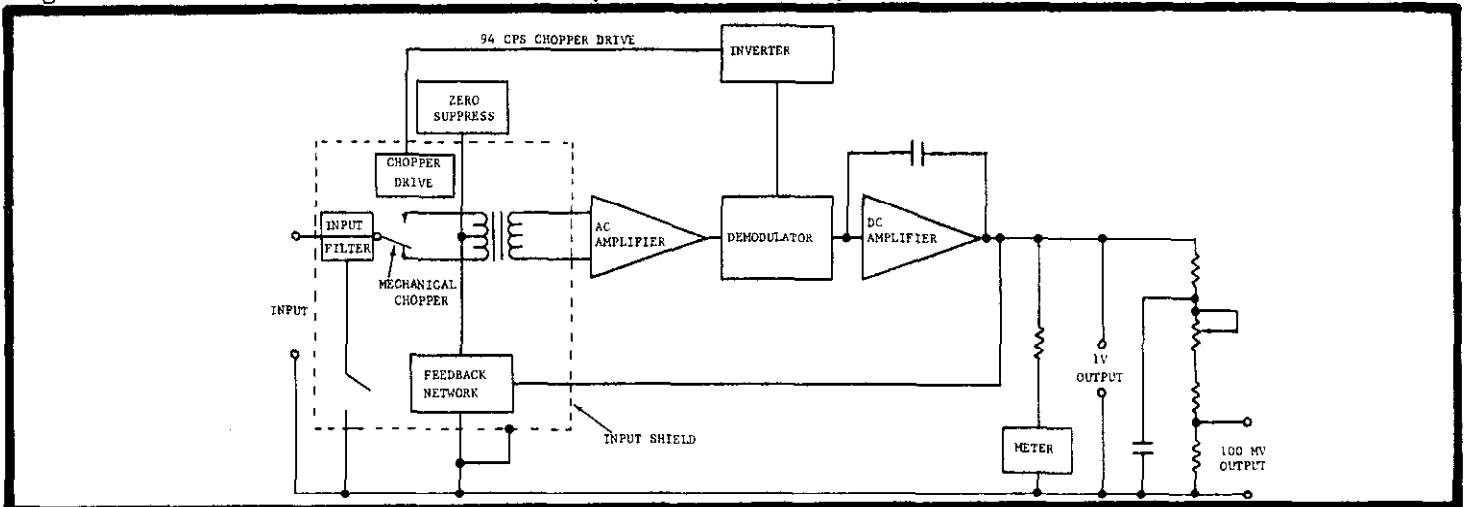

FIGURE 5. Block Diagram of Model 150B Amplifier Circuits.
a. The Model 150B consists of a chopper demodulator system followed by a dc amplifier. Feedback is applied to the whole loop. (See Figure 5).